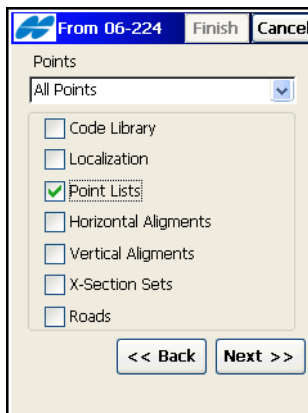
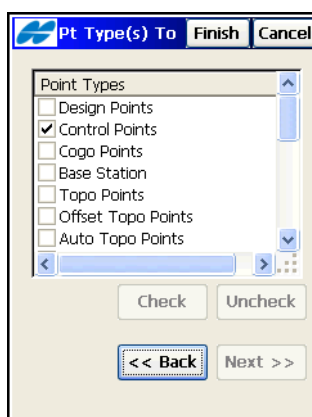

Figure 5-3. Import From Job
Figure 5-4. Select Point Type(s) to Import
On the *From <name of Job>* screen, select the data to import and, if necessary, filter the imported points (see Figure 5-3).
- ***Point Type(s) To Import*** if the points are filtered *By Type* (see Figure 5-4 on page 5-4)
On the *Pt Type(s) To Import* (Figure 5-4), select the types of points to be imported; only if the *Code Library*, *Localization*, or *Roads* box is check marked and if the *points filter by type* has been enabled in the *Import From Default* screen. Place a check mark next to the point type that you want (Figure 5-3 on page 5-3).